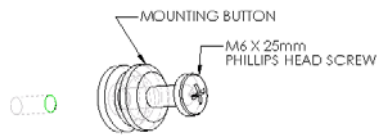
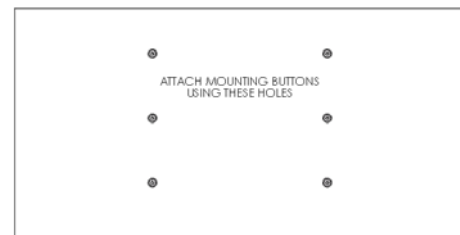

Figure 3
Figure 4
2. Attach mounting buttons to plasma using six M6 x 25 cap screws provided (see Figure 3 & Figure 4).